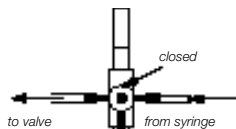

Fig. 21
- To release all air from the test assembly, turn the three-way faucet as shown in fig. 21.
- Turn the three-way faucet as shown in fig. 21 so that the manometer is isolated.